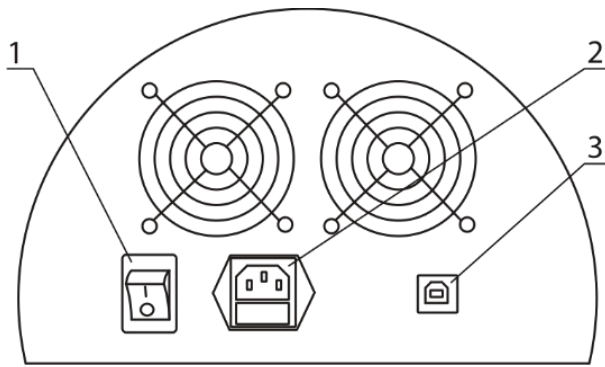

Figure 1. Rear panel of the unit
- Connect the power cable to the socket on the rear side of the unit (fig. 1/2) and position the unit so that there is easy access to the power switch and mains outlet.
- Connect the USB data cable to the port on the rear side of the unit (fig. 1/3) and to the personal computer;
7.3. Turn on the unit by pressing the power switch on the rear panel (fig. 1/1).
7.7. After finishing the operation, switch off the unit with the power switch (fig. 1/1).